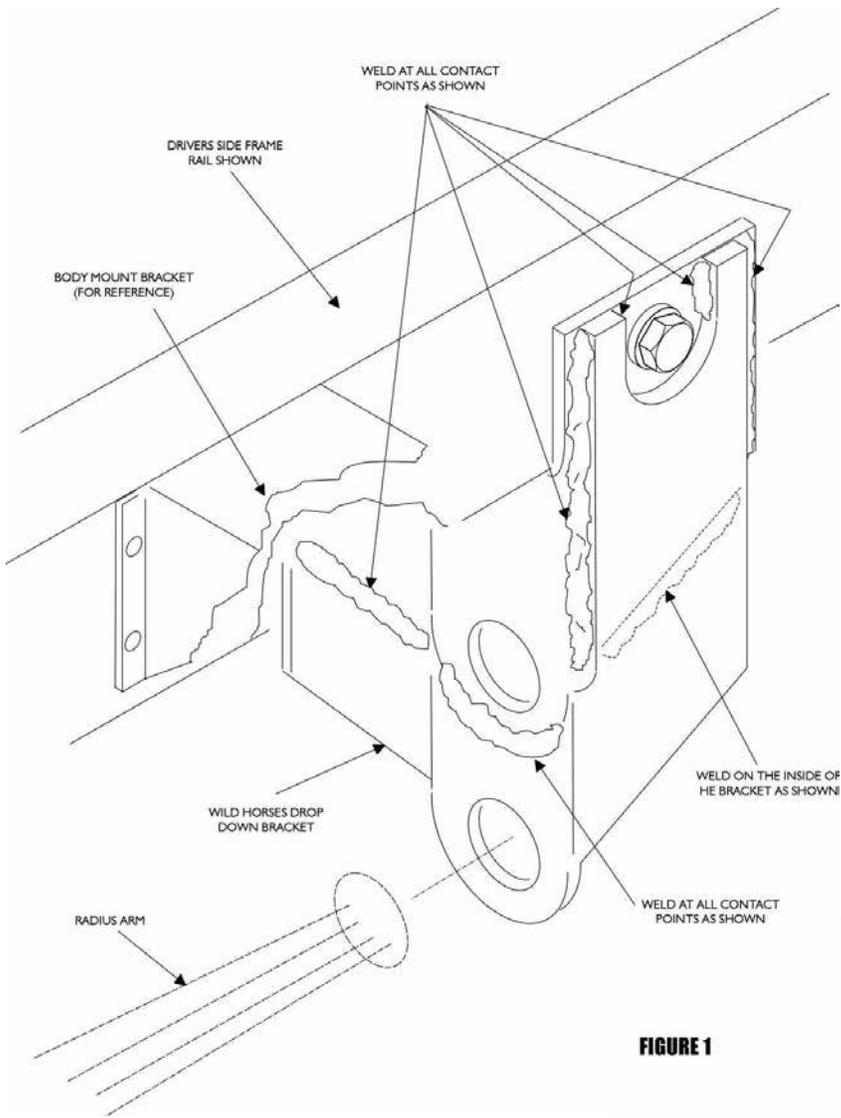

FIGURE 1
8. Weld the drop bracket at all contact points shown in Figure 1.